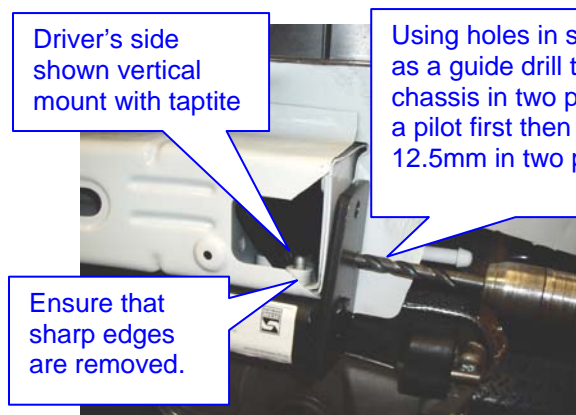

Fig 11
- Offer tow bar to the vehicle sub frame then fasten with driver side vertical mount with taprite bolt provided see fig11.